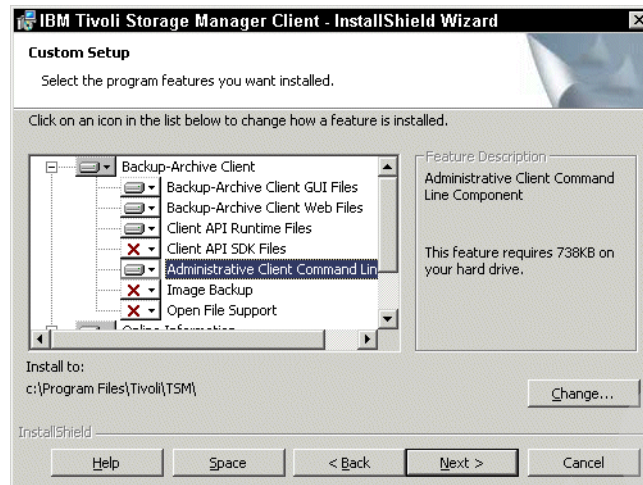

Figure 8-28 Custom Setup window
- h. In the Custom Setup window, select the **Administrative Client Command Line Files** additional feature (three are already selected), and then click **Next**. (See Figure 8-28.)